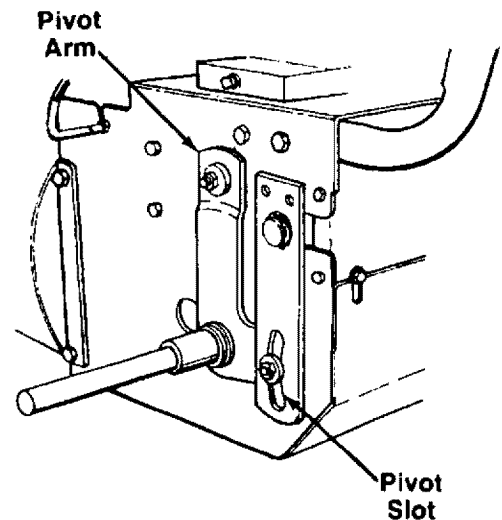

FIGURE 18.
**Pivot Points**—Grease pivot slots and pivot arms (both sides of unit) before each season, before storage and after each 10 hours of operation, using a multi-purpose automotive grease. See figure 18. After applying grease, work the weight transfer lever back and forth to distribute the grease.
Figure 18 is shown with the wheel removed for clarity only. It is not necessary to remove the wheel to lubricate the pivot slots and pivot arms.